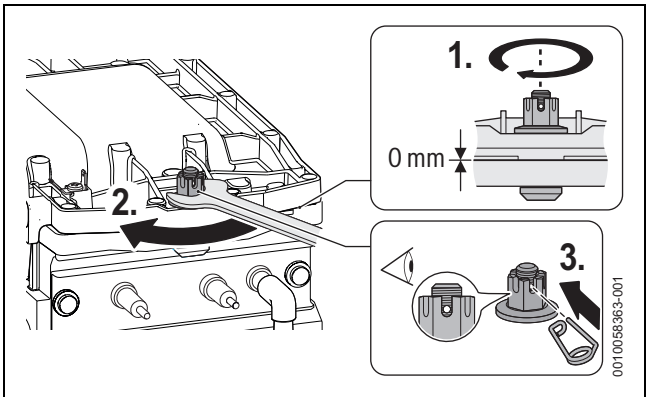

Fig. 81 Burner cover securing nut tightening
- ▶ Reinstall the burner in reverse order, including a new gasket. With the burner and the burner cover refitted. Refer to figure 81.